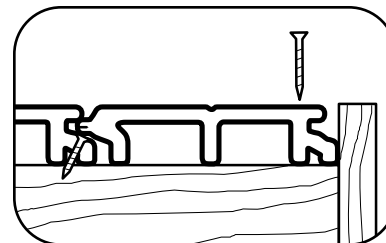

Fig. 6
- If last row is a full-width plank, run screws through the face or groove section of each plank and into the joists (Fig. 6).